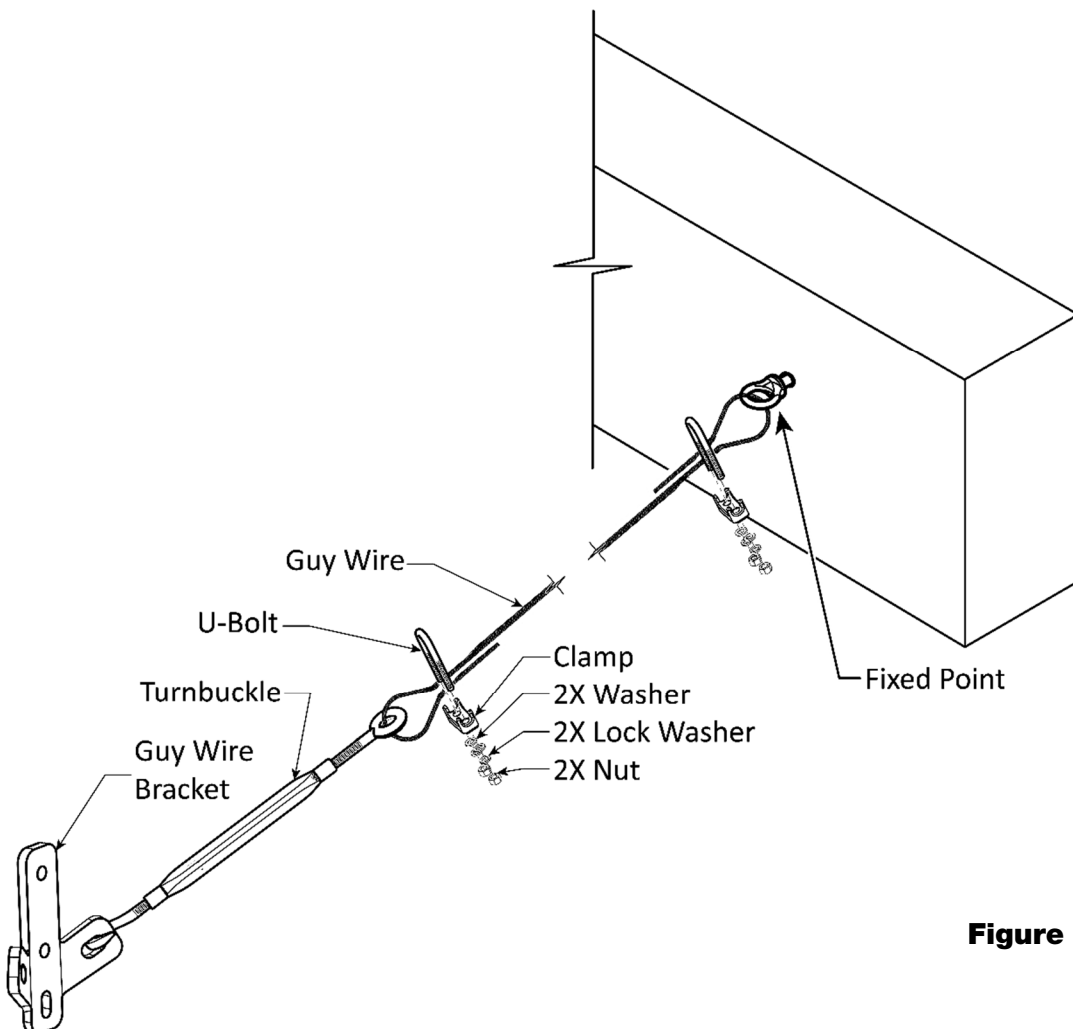

Figure 17
4. Loop the other end of the Guy Wire through the Fixed Point remove any slack and secure as in step 4 above. Repeat this process to install the three remaining supporting Guy Wires. Refer to **figure 17**.